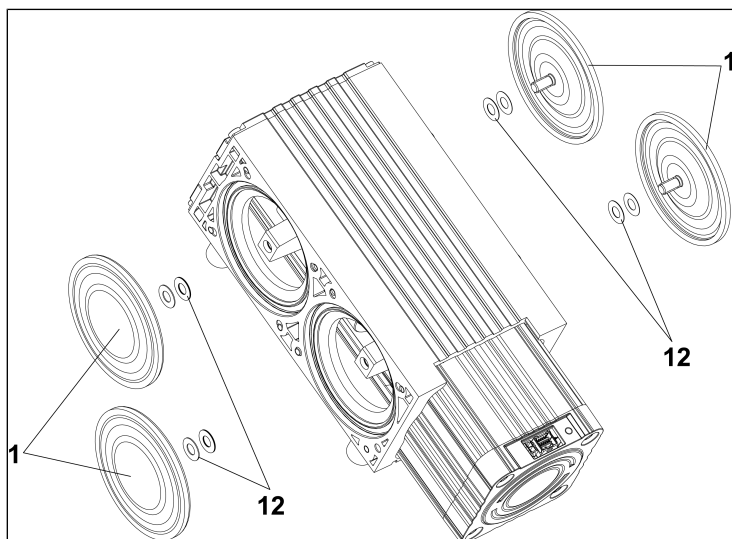

Fig. 15: Diaphragm replacement
1. Unscrew the two diaphragms (1/Fig. 15) counterclockwise by hand.
**i** Make sure that the shim rings (12/Fig. 15) located between the diaphragm and the connecting rod do not fall into the pump housing. To ensure pneumatic performance of the pump, make sure to reinstall the exact number of shim rings (12/Fig. 15) as removed.
2. Screw the new diaphragms (1/Fig. 15) into the thread of the connection rod by hand and tighten them hand-tight.
3. Move the diaphragms (1/Fig. 15) to top dead center.